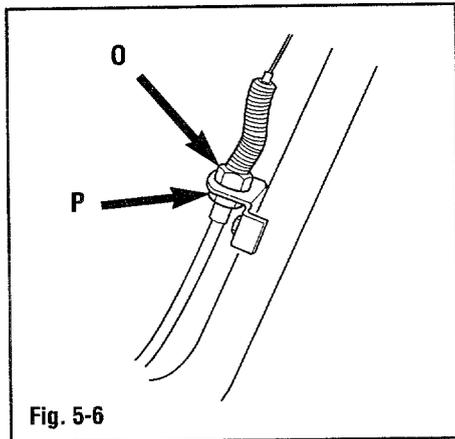

Fig. 5-6
- a. Loosen the locking nut (O, Fig. 5-6) on the left cable adjuster several turns.
- c. Hold adjustment nut (P, Fig. 5-6) and securely tighten locking nut (O) when the adjustment is complete.